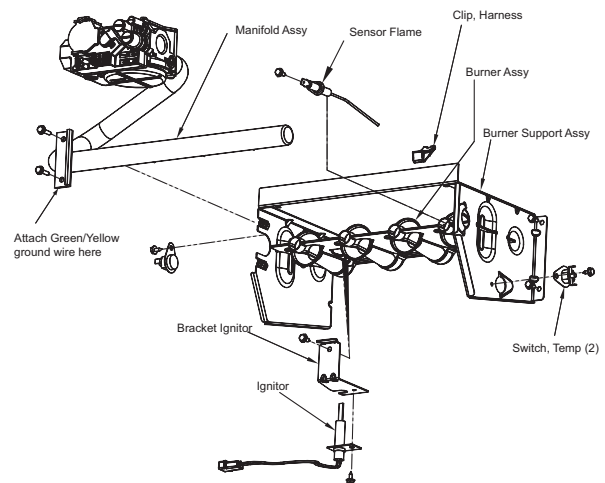

Fig. 16 - 80% Burner
NOTE: Use a back-up wrench on the gas valve to prevent the valve from rotating on the manifold or damaging the mounting to the burner box. See Fig. 16 & 17.
1. Refer to Fig. 16 & 17.